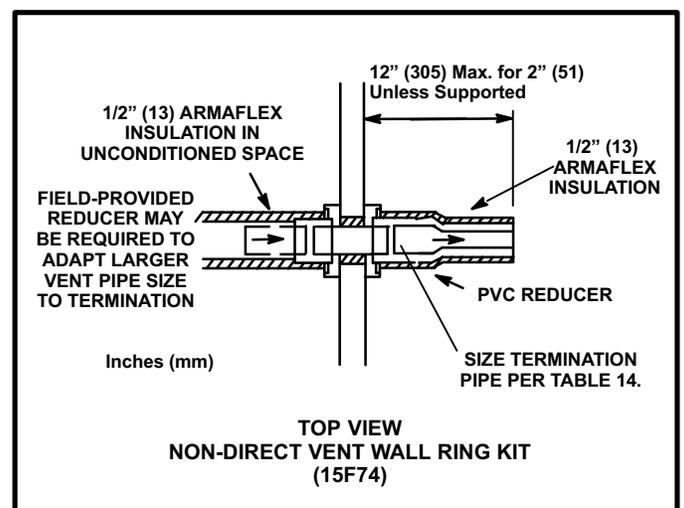

FIGURE 30
2. On field supplied terminations for side wall exits, exhaust piping should extend a maximum of 12 inches (305mm) beyond the outside wall, unless support is provided in the horizontal section. See figure 30.